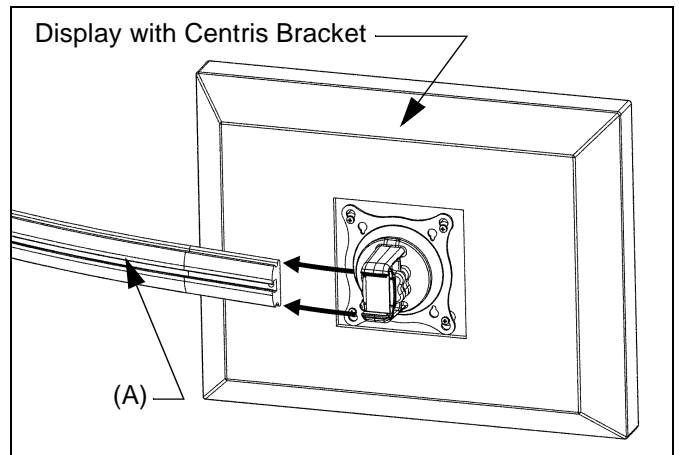

Figure 9
7. Slide display with Centris bracket onto array rail (A). (See Figure 9)